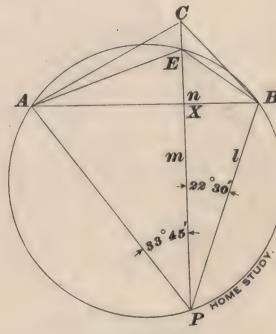

FIG. 2.
Equating these values of $Q X$ and transposing, we get formula (2). Apply formula (1) to the triangle $A B C$, and formula (2) to the triangle $A B P$ in Fig. 2. Then, by addition,